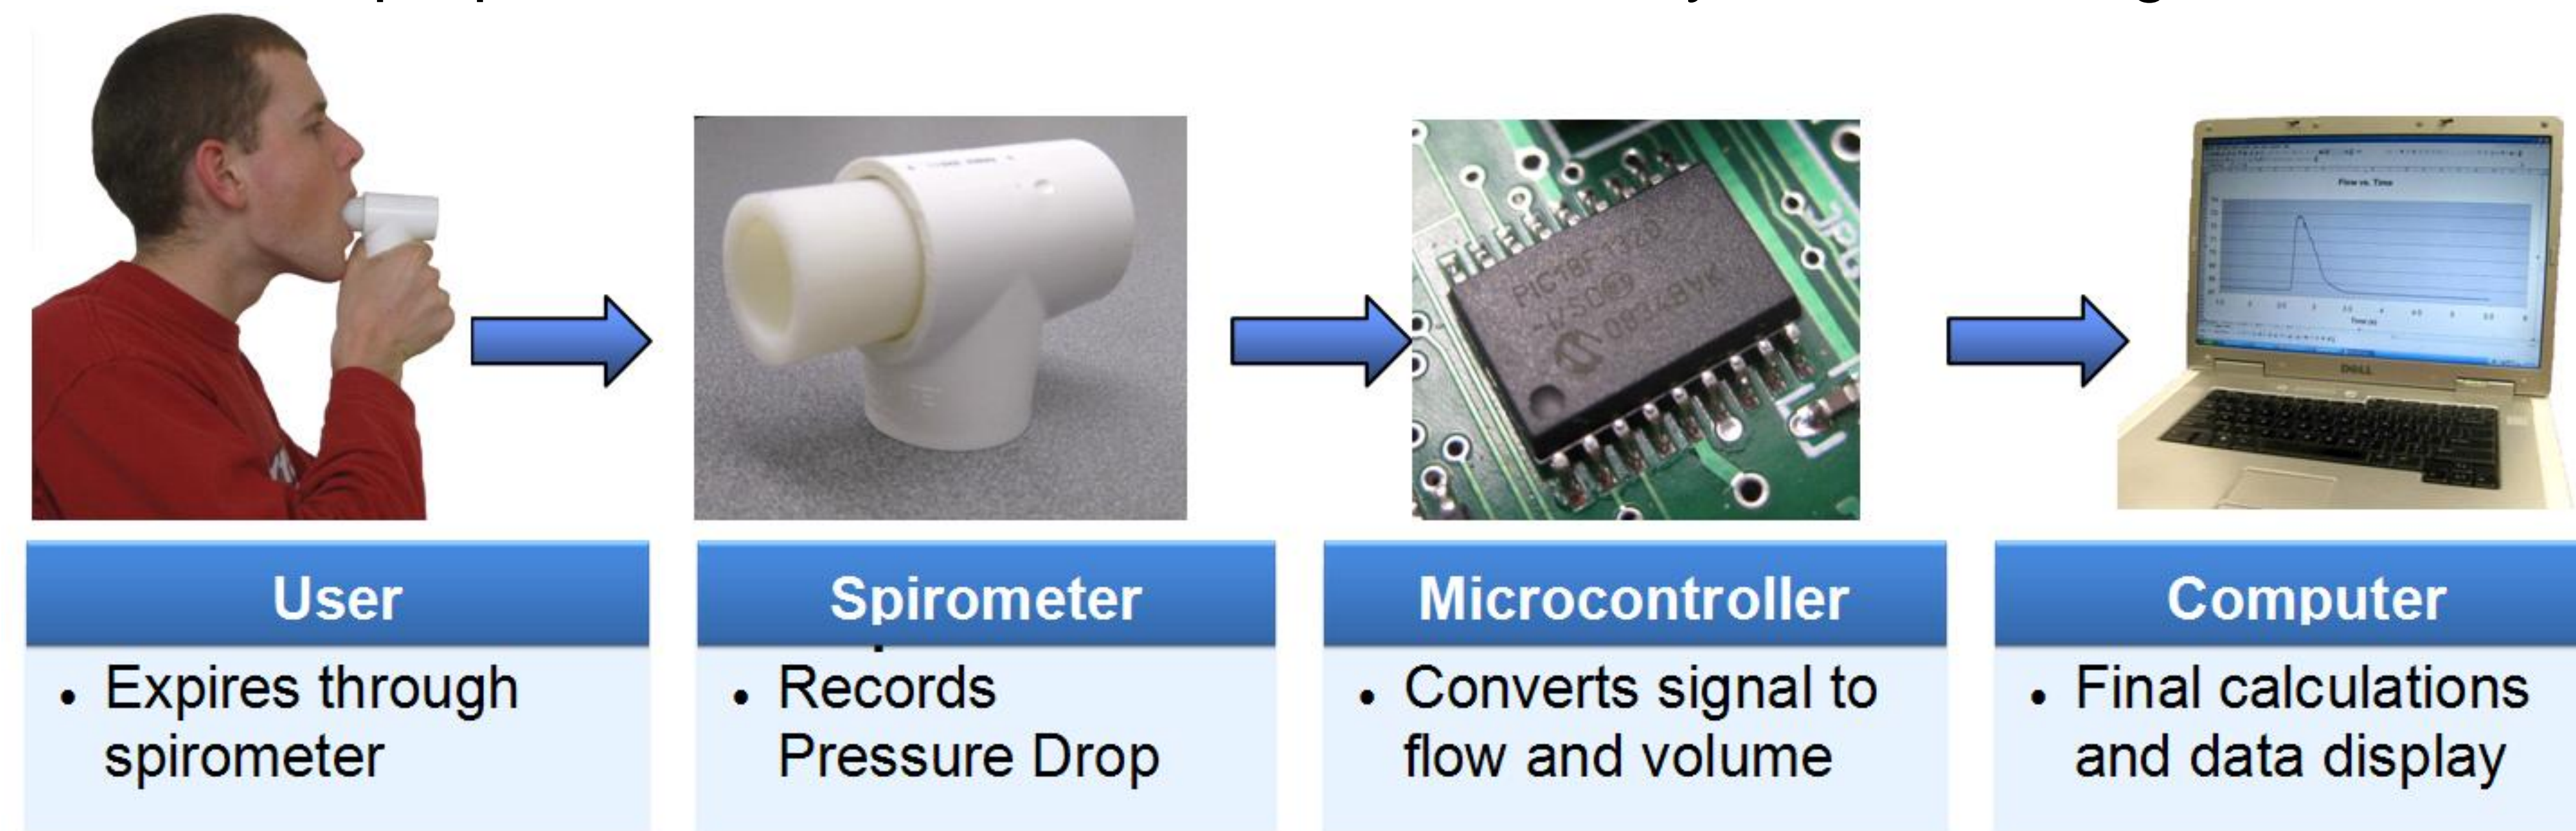

Figure 3: The proposed final layout of the operation of our spirometer.
- Utilizes a differential pressure sensor to measure drop through spirometer (Figure 3).